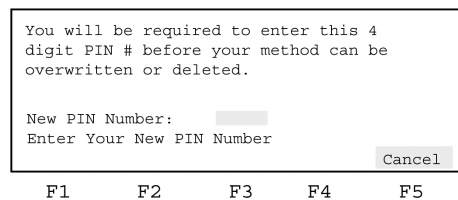

Figure 3-4. The New PIN Number screen
1. From the Security Code screen, press **F3-PIN#**. This displays the New PIN Number screen (Figure 3-4).